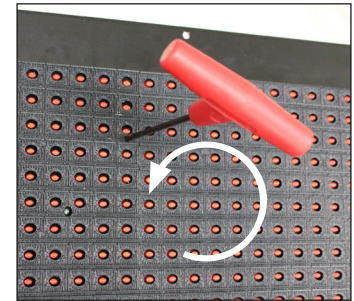

Figure 1: Module Access
1. Remove the top-left module by inserting a 1/8" Allen wrench into the latch access hole toward the top-center of the module and gently turning counter-clockwise. Refer to **Figure 1**.